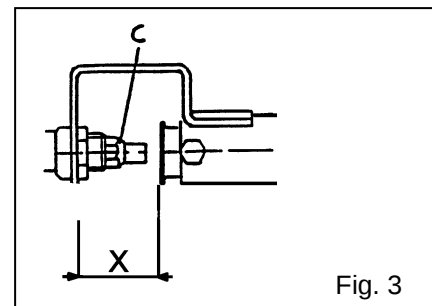

Fig. 3
4.2 Regulating the primary air (Fig. 3)
The distance foreseen for regulation of the primary air is shown in Figures 3 and indicated in table 2. Unscrew the injector "E" with a 12 mm spanner and mount the appropriate injector. Check the exact distance "X" for the primary air.
In order to change the injector "C" (Fig. 3) remove, by pulling it, the control panel. Using a spanner unscrew the injector and replace it according to table 2.